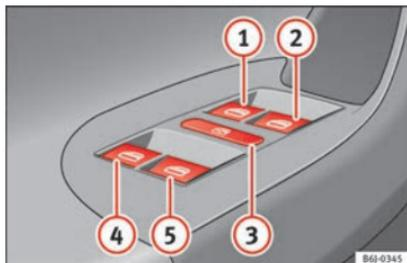

Fig. 133 Detail of the driver door: controls for the front and rear windows (5-door vehicles with front and rear electric windows).
Buttons »» Fig. 133 ①, ②, ④ and ⑤ have two positions for opening windows and two for closing them. This makes it easier to open and close windows to the desired position.